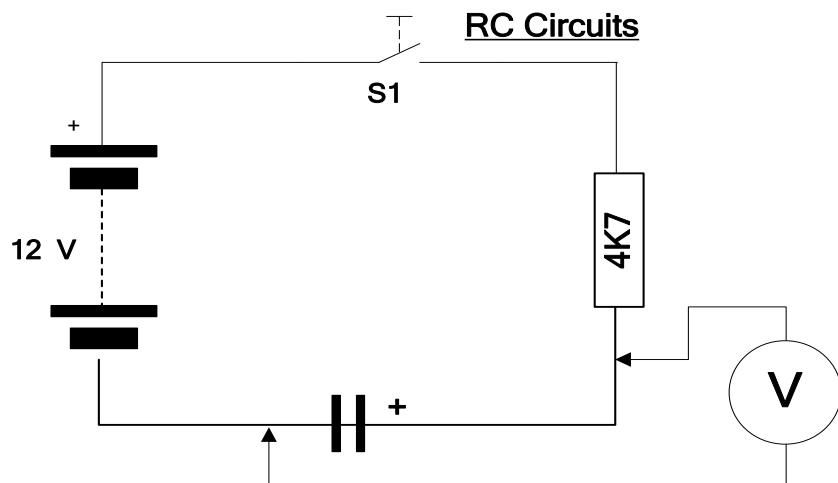

Figure 14
- Wire the circuit on the board as shown in Fig. 14.